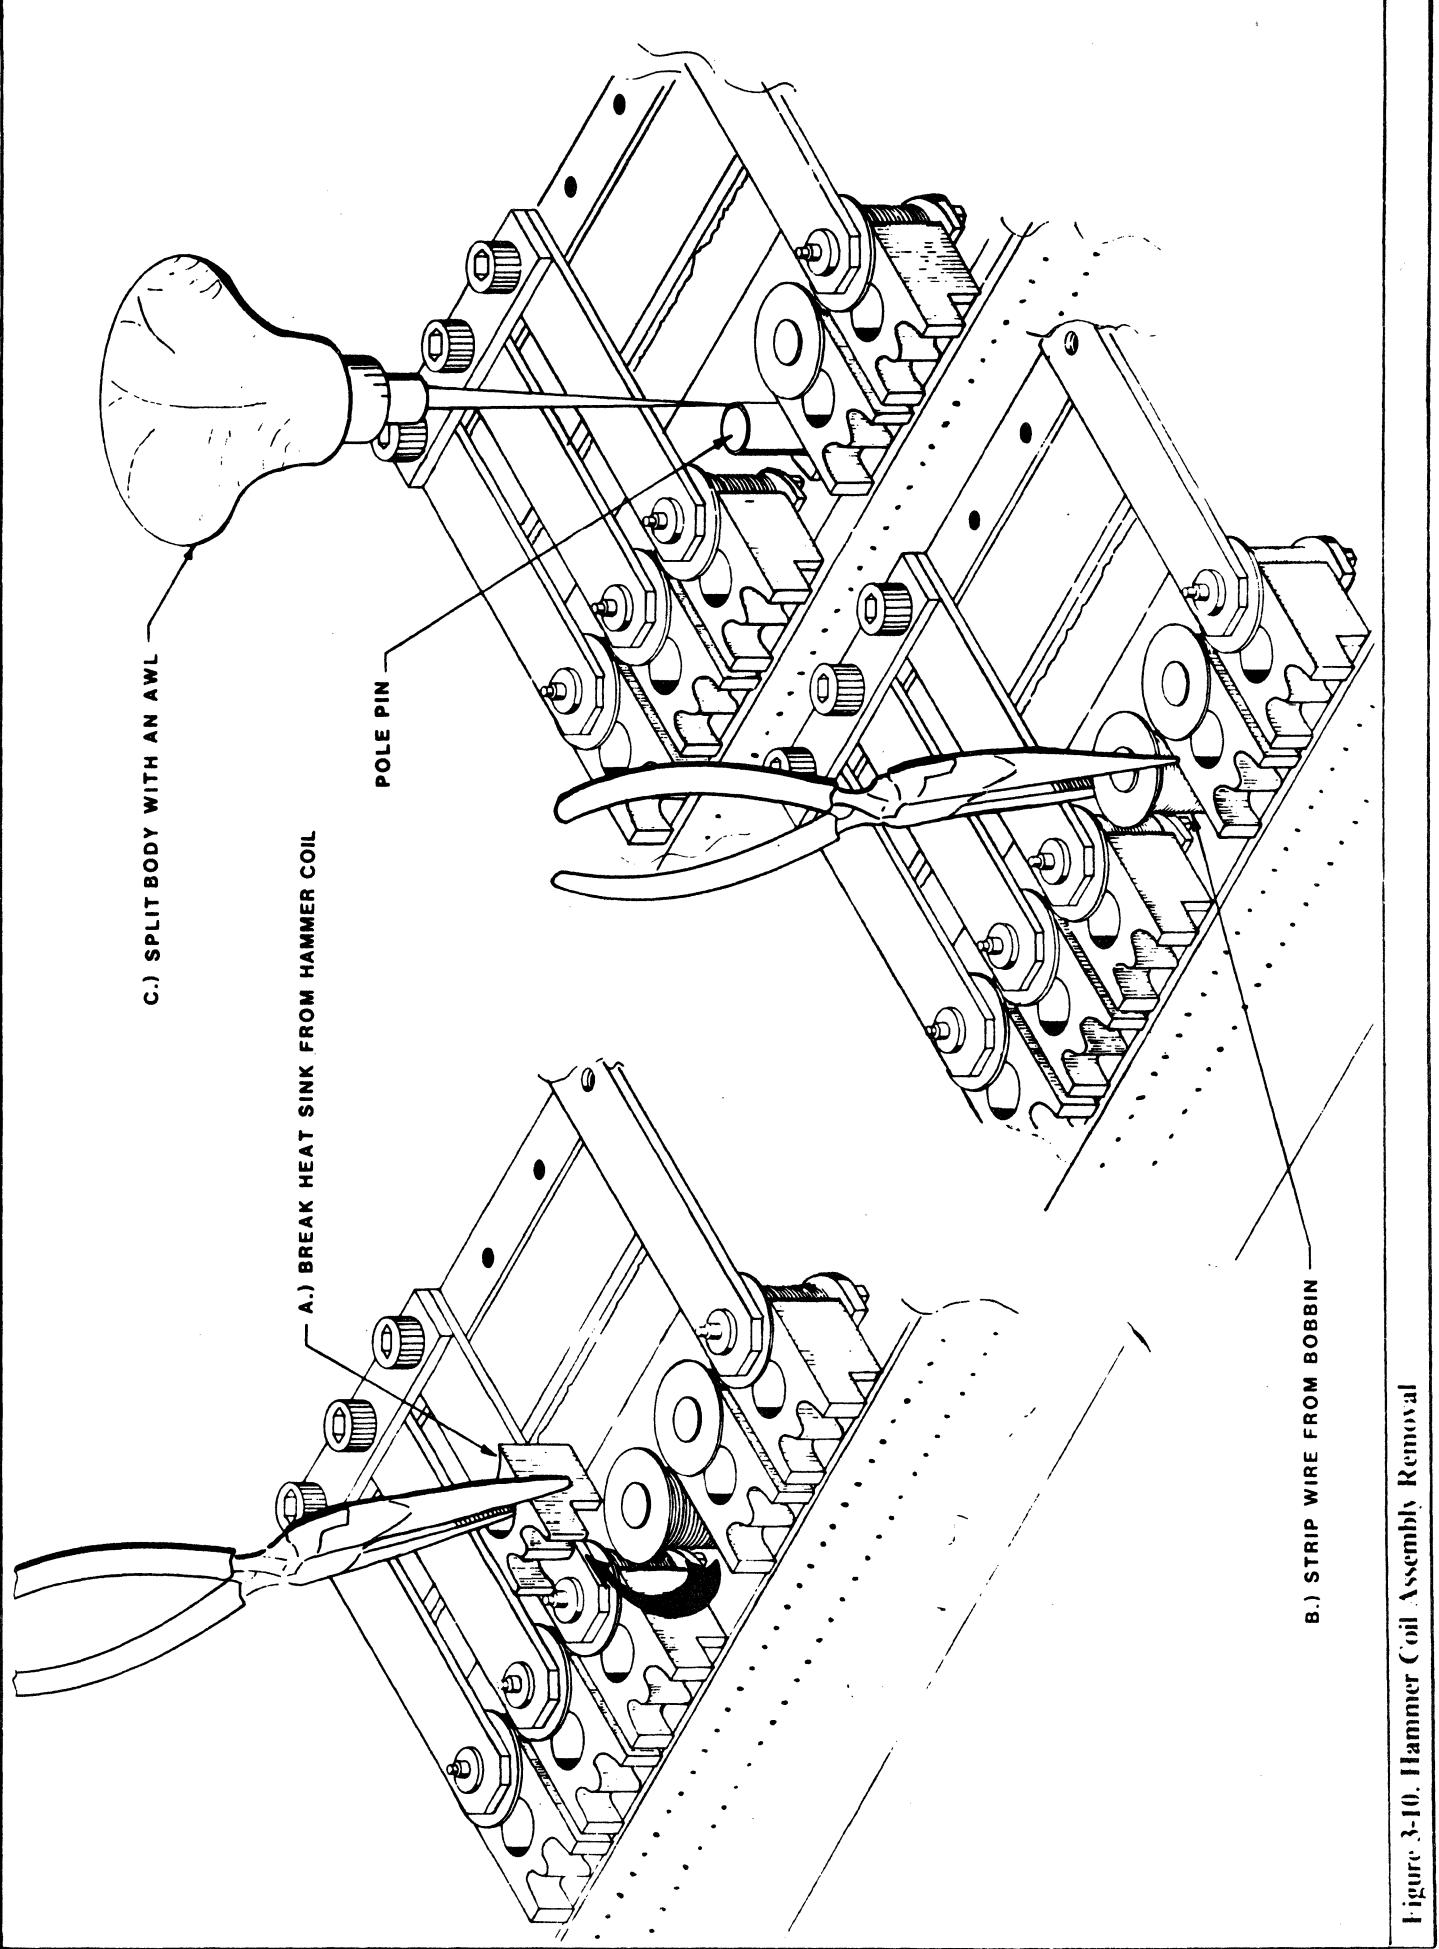

Figure 3-10. Hammer Coil Assembly Removal
2. Break off the hammer coil heat sink (**Figure 3-10**); then strip off the top of the coil and the wires from the bobbin.